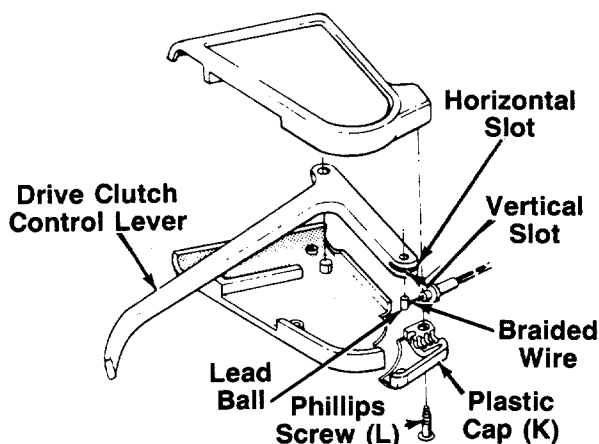

FIGURE 12.
- b. Slide the braided wire around in the horizontal slot. See figure 12.
- d. Secure the plastic cap (K) to the clutch control housing using the two Phillips head screws (L). See figure 12.